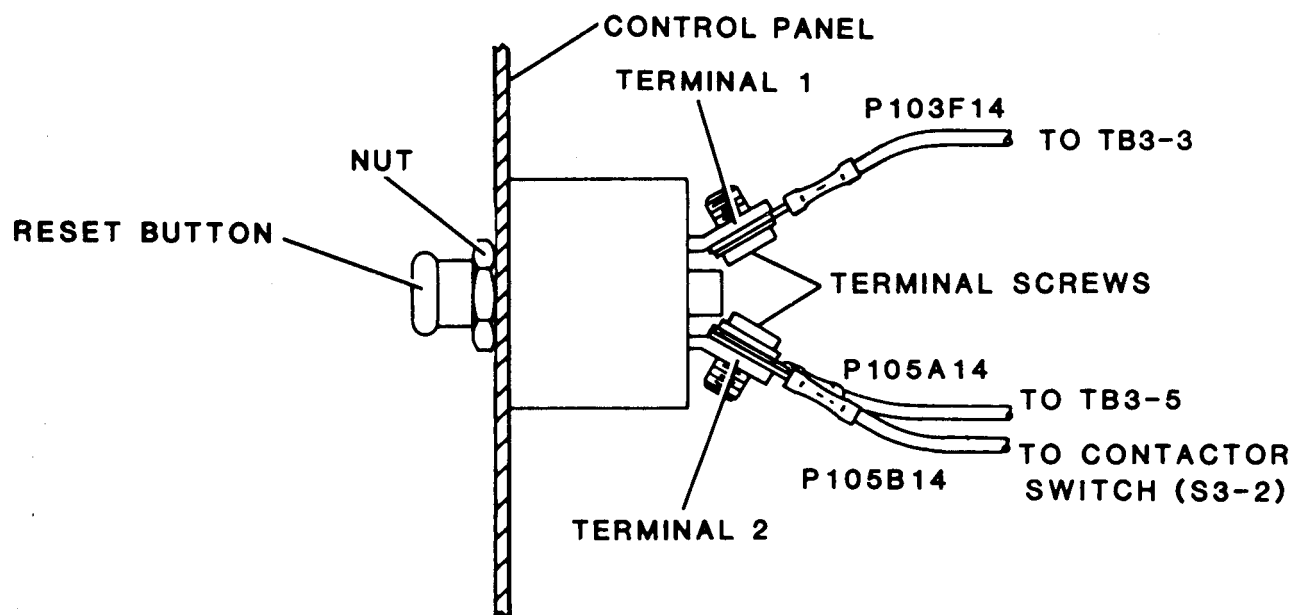

Figure 4-18. Circuit Breaker Test and Replacement
(1) Place GECM (4) in control fender. Ensure that mounting holes are aligned.
(2) Secure with capscrews (3), washers (2), and nuts (1). Torque to 74-82 inch pounds (8.4-9.3 Nm).
(3) Connect cables to GECM connectors J1, J2, and J3.
(4) Close control panel and secure with turnlock fasteners.
(5) Close control panel access door.
(6) Connect battery cable plug connector to battery.
**4-31. CIRCUIT BREAKER.** See FO-1 for location of circuit breaker (CB1) on control panel. Maintenance of the circuit breaker (figure 4-18) consists of testing and replacement.